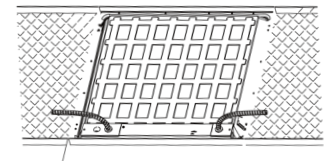

Fig. 2
2. Use the provided T-bar brackets for added security (Fig. 2)